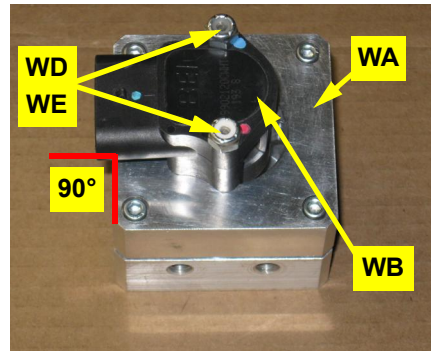

Figure 1a: Mounted WAS wire connector
- a. Using the provided hardware **WD** and **WE**, attach the WAS wire connector (sensor) **WB** to the WAS housing **WA**. Install the bolts up through the bottom of the housing. The WAS wire connector **WB** can be mounted 90° to any of the WAS housing **WA** sides (Figure 1a).